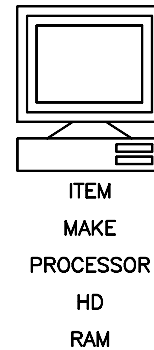

Figure 17-7 Attributes defined below the computer
8. Similarly, define the remaining attributes also (Figure 17-7).